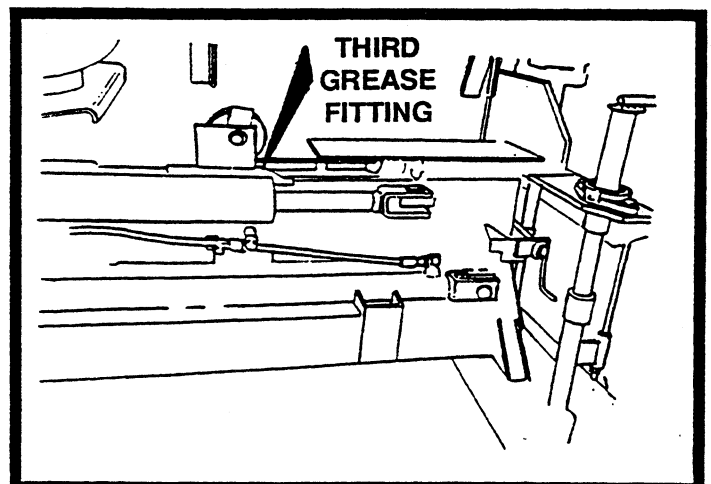

**FIGURE 29**
5. There are three grease fittings that should be greased daily with a good grade of multipurpose grease. Two fittings are on the outside end of each auger. See figure 29.